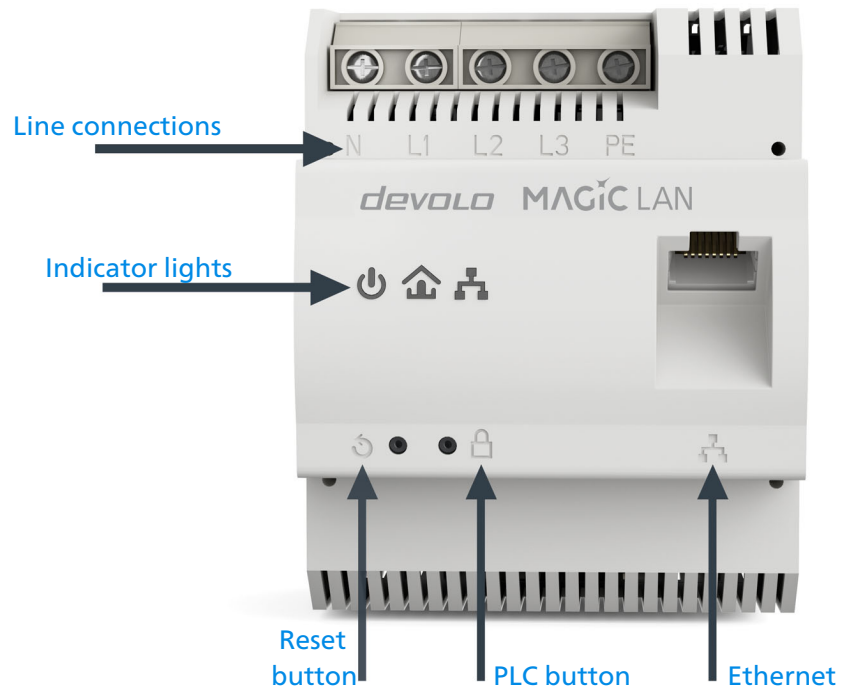

Fig.2
You can use the network connection (Fig. 2) on the devolo Magic adapter to connect it to your internet router using standard network cables.
PLC (Fig. 2)
Ethernet (Fig. 2)
- Using the **PLC button** (see Fig. 2)
The device is restarted by pressing the reset button (Fig. 2). The LEDs switch off in the meanwhile.